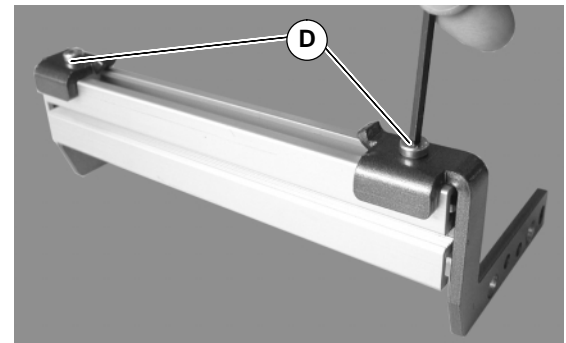
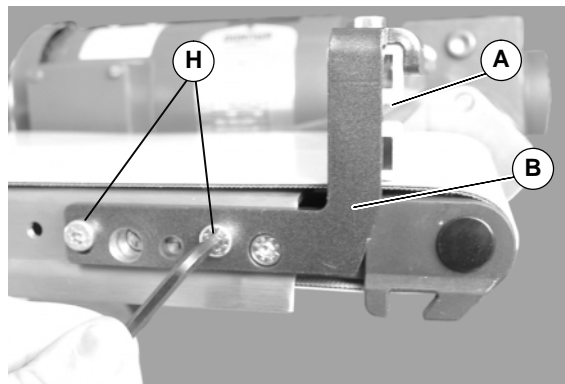

Figure 11
Figure 15
4. Loosen the socket head screws (D of Figure 11) on the end stop assembly.
8. Place the remainder of the end stop assembly (A & B of Figure 15) on end of conveyor and attach non-gearmotor mount side with head plate screws (H) tighten to 57 in-lbs (6.4 N-m).
**NOTE:** If used with Heavy Load Gearmotor Mounting Package, End Stop bracket (B of Figure 15) replaces mount spacer as shown in figure 16.
9. Center the end stop (A of Figure 15) on the conveyor and tighten screws (D of Figure 11) to 57 in-lbs (6.4 N-m).